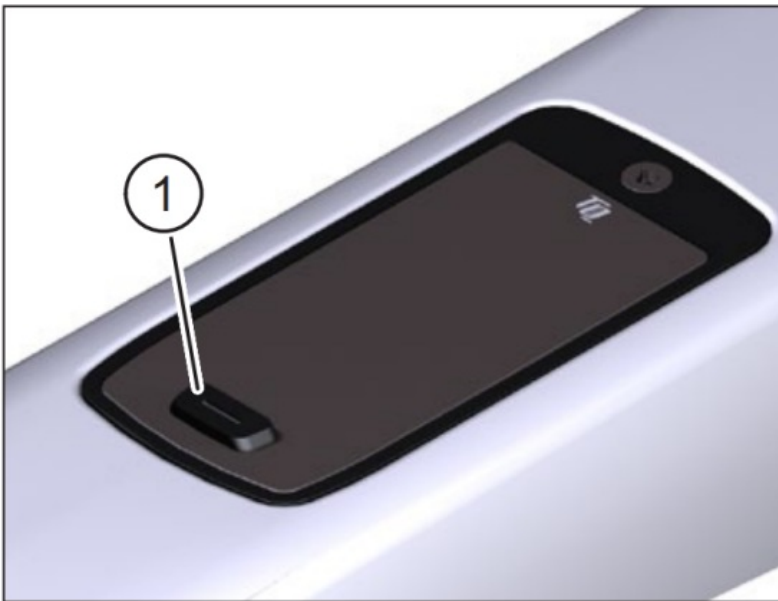
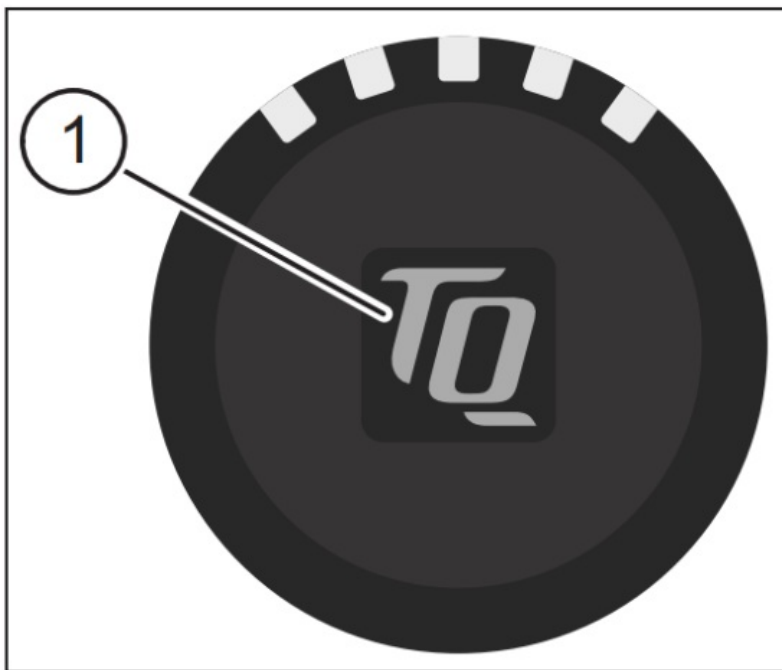

Fig. 1: Display
Fig. 2: Bar End Display
- Switch on the Drive Unit by shortly pressing the button on the Center Display (pos. **1** in **Fig. 1**) or Bar End Display (pos. **1** in **Fig. 2**).
- Switch off the Drive Unit by long pressing the button on the Center Display (pos. **1** in **Fig. 1**) or Bar End Display (**pos. 1 in Fig. 2**).